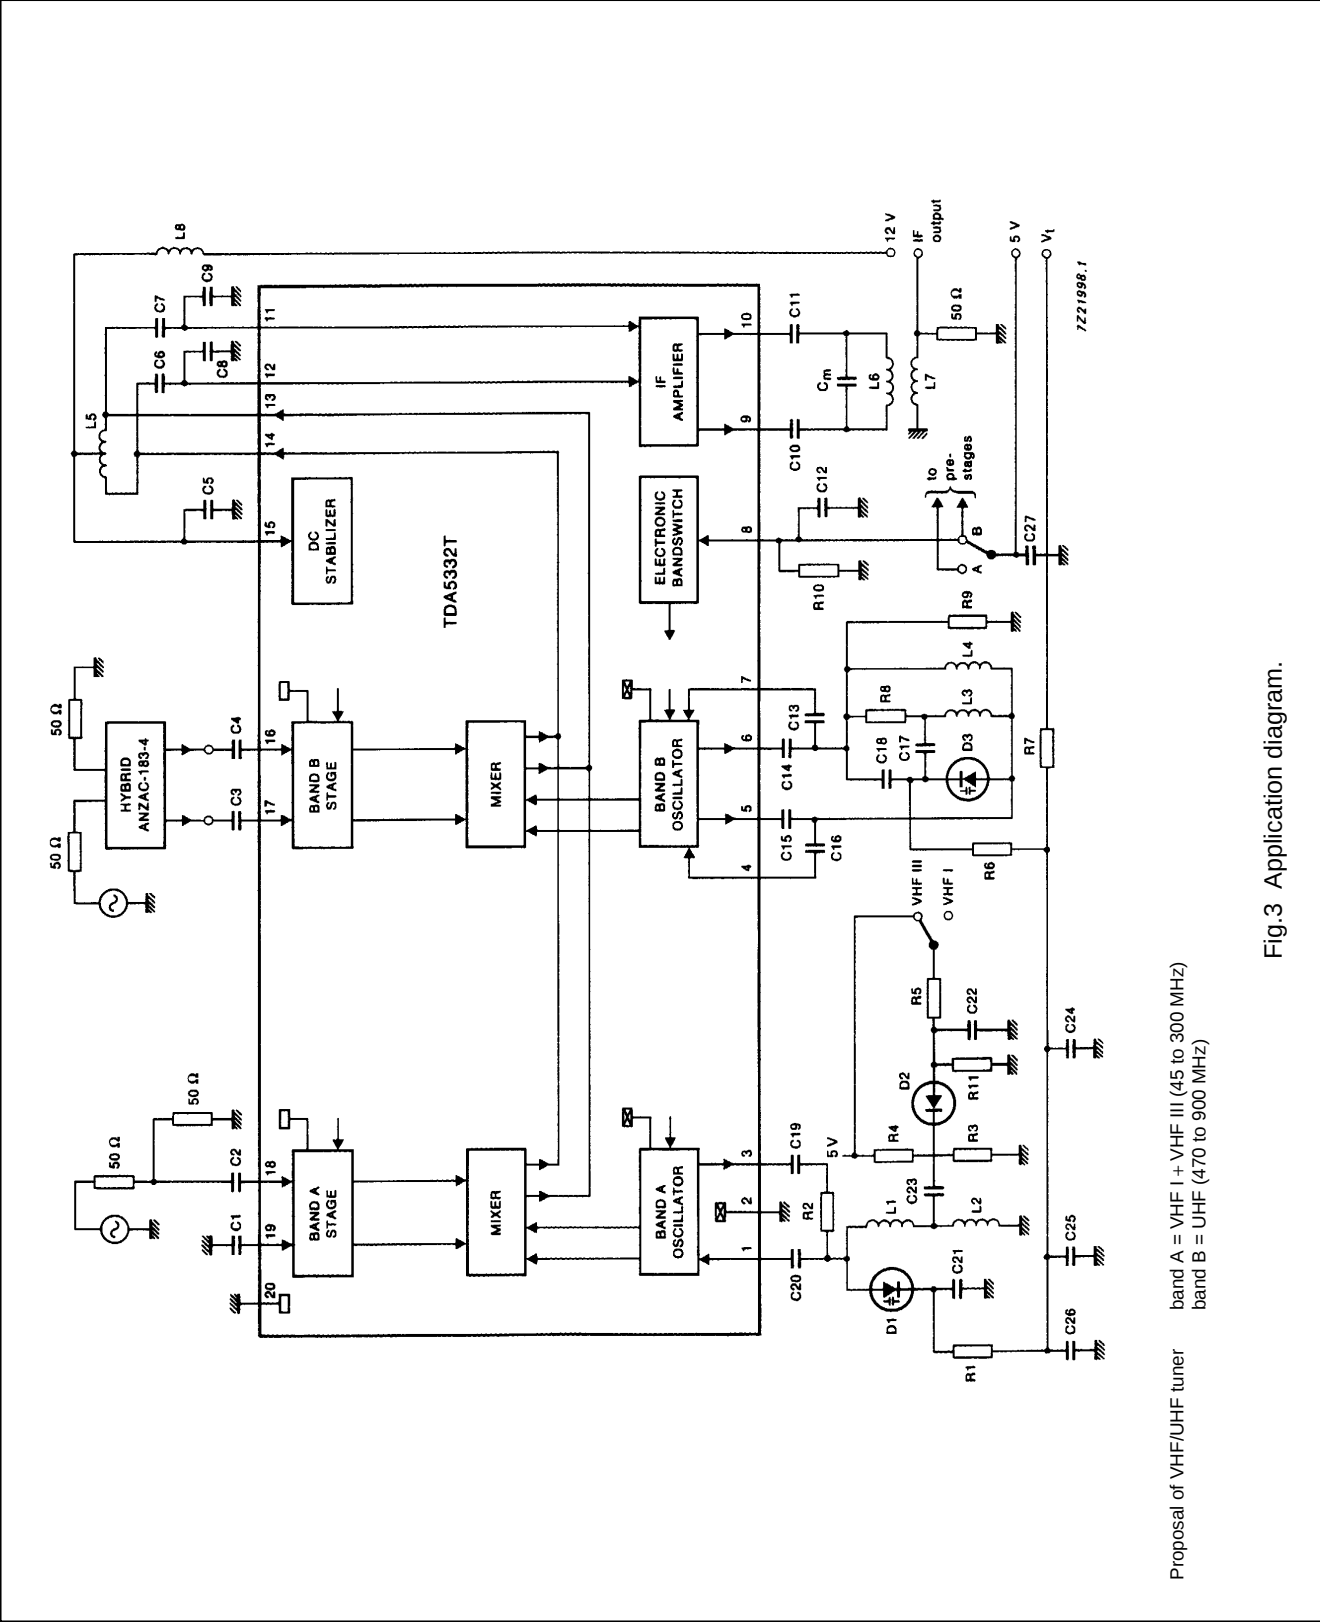

Fig.3 Application diagram.
$V_P = 12\text{ V}$; $T_{\text{amb}} = 25\text{ }^{\circ}\text{C}$; all voltages are referenced to ground (pins 2 and 20); measured in Fig.3; unless otherwise specified.
Band A mixer (including IF amplifier)	measured using circuit shown in Fig.3
- The gain is defined as the transducer gain (measured in Fig.3) plus the voltage transformation ratio of L6 to L7 (6:1, 16 dB).